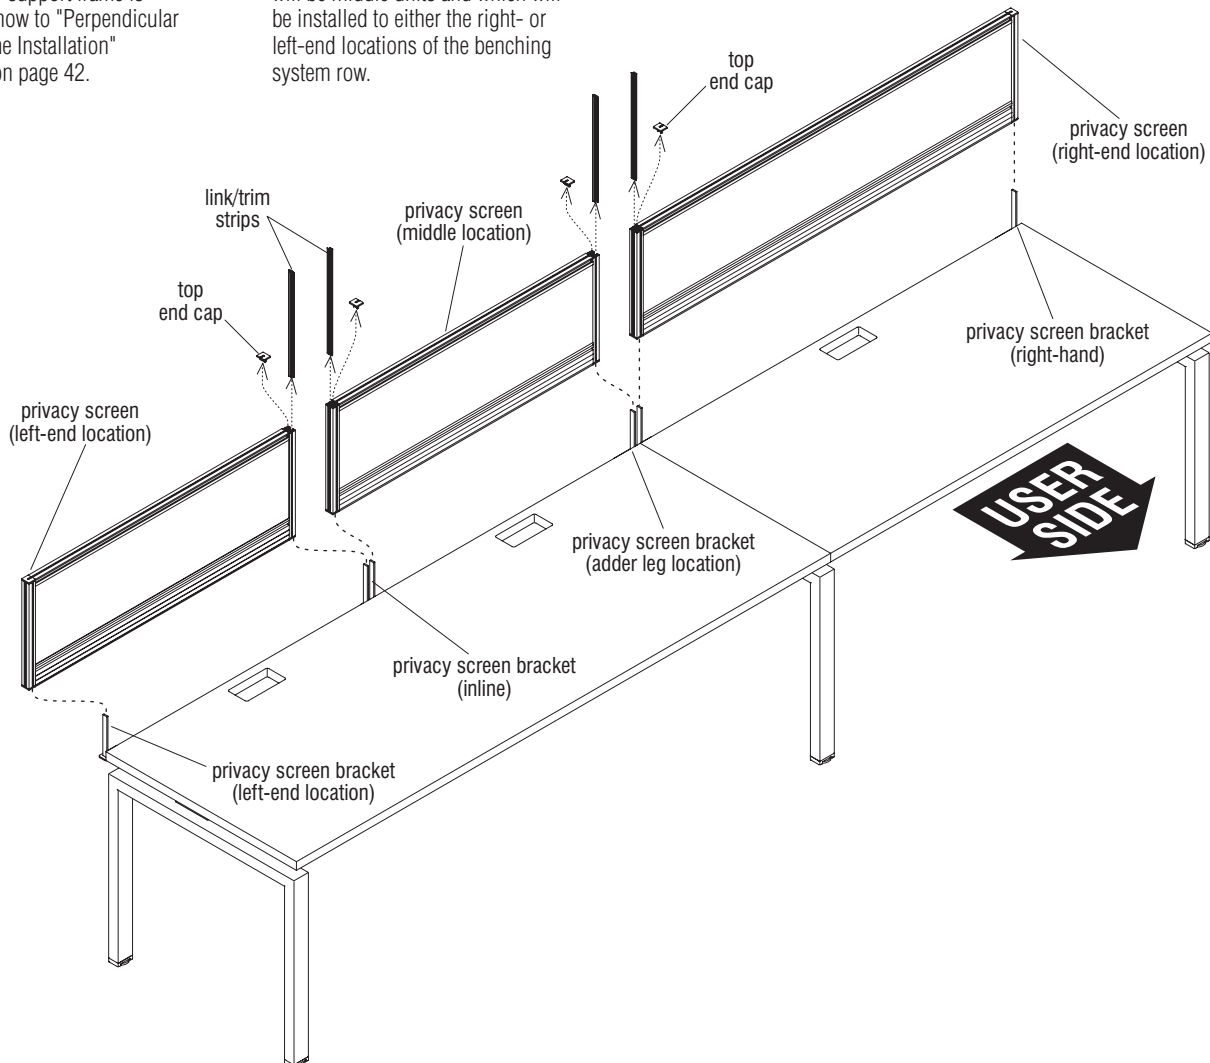

Figure 1 - Single-Sided Fixed Benching - Privacy Screens Installation
3. Where privacy screens are to join together, first remove top end caps, then the link/trim strips and set aside (Figure 1).
4. Per the space-planning layout, set each right-, left-end and middle location privacy screens onto the privacy screen brackets of the benching system as illustrated. The upward facing bayonets of the brackets insert into the extrusion of the privacy screen frame. Take care to keep privacy screen level while sliding onto the bayonets to avoid binding (Figure 1).